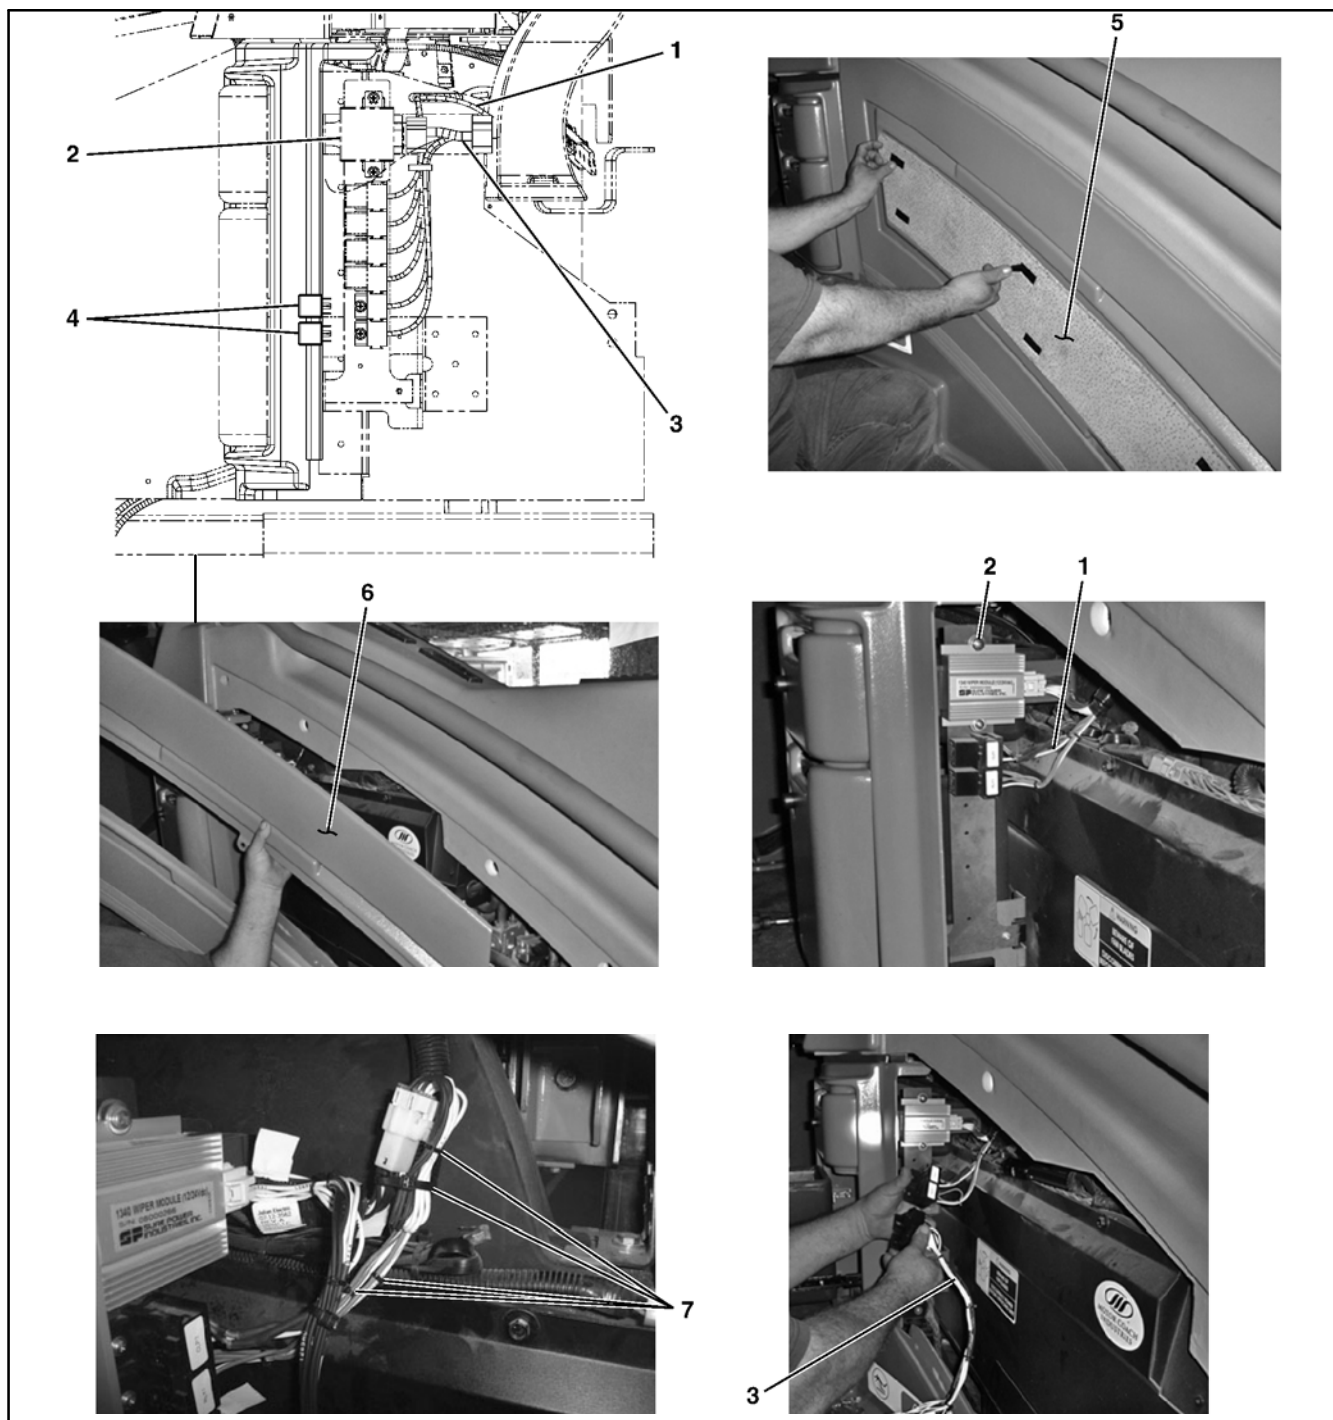

Figure 2. Relay Installation
8. Remove the fabric return air panel and the return air panel as shown in Figure 2, items 5 and 6. Locate the wiper controller as well as dash harness Plug X145 (J1R) (refer to locations shown in Figure 2, items 1 and 2). Unplug Plug X145 (J1R) from the wiper controller.
9. Connect the male adapter P145B of the wiper controller adapter harness, p/n 07-12-3562, Figure 2, item #3, to Plug X145 (J1R) of the dash harness, Figure 2, item #1. Connect the female adapter P145A of the wiper controller adapter harness, Figure 2, item #3 to the wiper controller, Figure 2, item #2.55
10. Remove the relay bases of the dash harness and retain the hardware. Interlock the relay base located on the jumper harness with the existing relay bases (refer to Figure 2, item #4). Using the screw, p/n 19-1-696 and washer, p/n 19-2-7, install the relay base section of the wiper controller adapter harness, Figure 2, item #3. Install the two relays, p/n 7L-5-79, Figure 2, item #4 into the relay base.
11. Using tyraps, p/n 19-11-258, secure the wiper controller adapter harness to the dash harness as shown in Figure 2, item #7.
12. Using the hardware removed in Step 8, secure the fabric return air panel and the return air panel, Figure 2, items 5 and 6. Proceed to the outside of the coach.